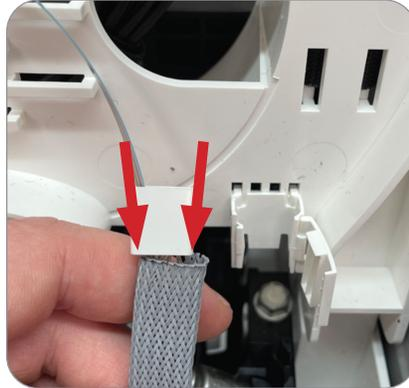
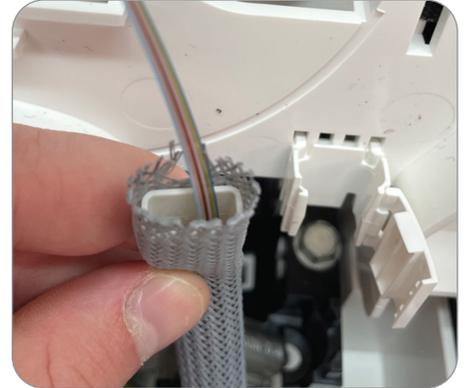

Figure 13
Figure 14
7. Make sure the mesh insert is facing the right direction, with the tapered end towards the mesh (Figure 13) and is properly inserted inside the mesh (Figure 14).